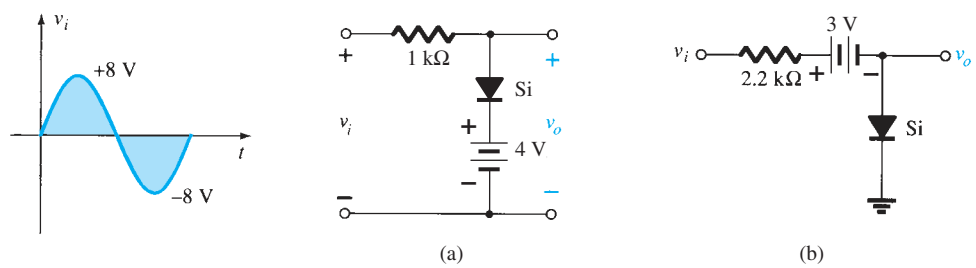

FIG. 2.179
*35. Determine v_o for each network of Fig. 2.179 for the input shown.